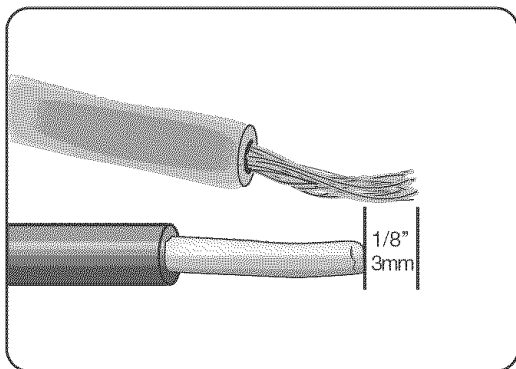

Figure 28
- Extend the dishwasher's stranded wires 1/8" (3mm) beyond the power supply cable's solid wires, as shown in Figure 28.